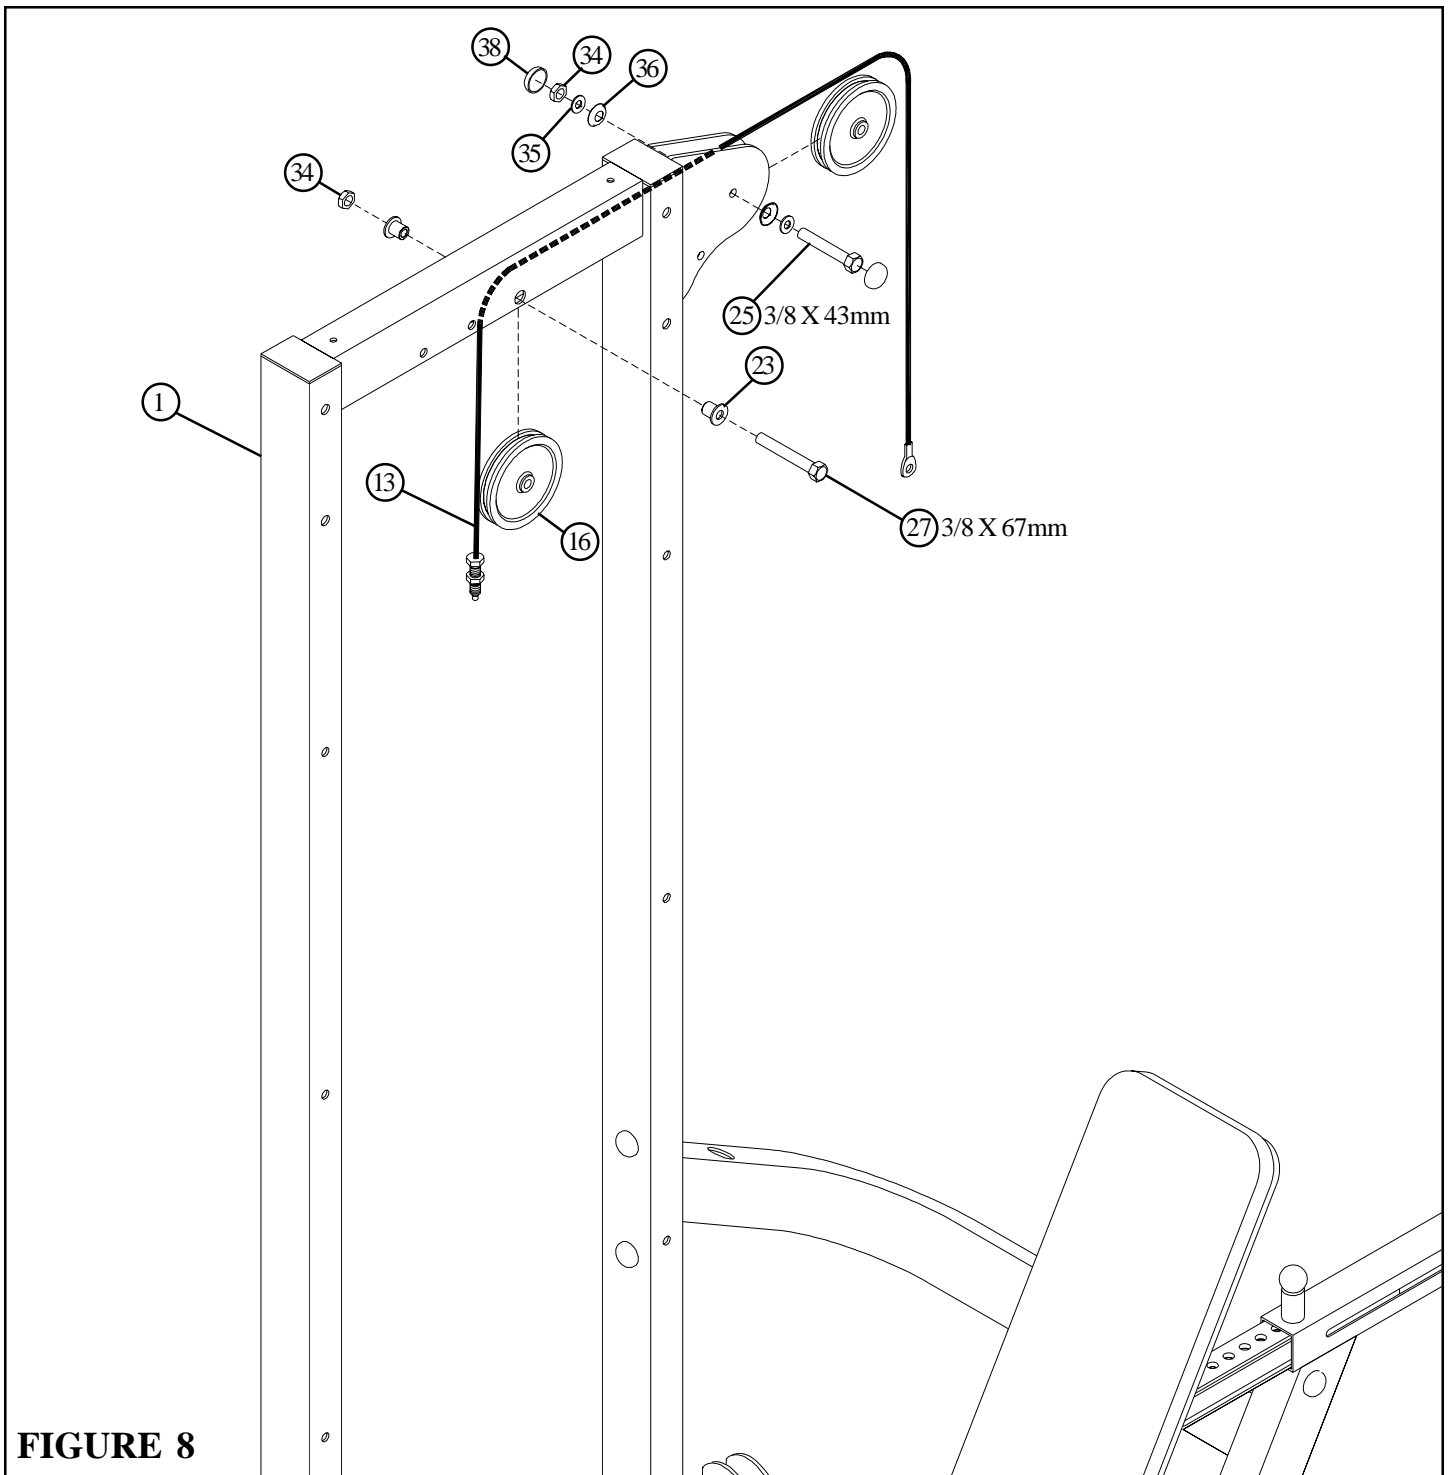

FIGURE 8
- Route the WEIGHT STACK CABLE (13) through the TOWER (1) as shown, and **SECURELY** assemble one 4-1/2" PULLEY (16) inside the TOWER (1) using one 3/8 X 67mm BOLT (27), two 3/8 X 1/2" FLANGE SPACERS (23) and one 3/8" LOW HEIGHT LOCK NUT (34) as shown in FIGURE 8.
- **SECURELY** assemble one 4-1/2" PULLEY (16) between the flats of the TOWER (1) using two RH CAPS (38), one 3/8 X 43mm BOLT (25), two 3/8" SAE WASHERS (35), two 3/8" RH WASHERS (36), and one 3/8" LOW HEIGHT LOCK NUT (34) as shown in FIGURE 8.